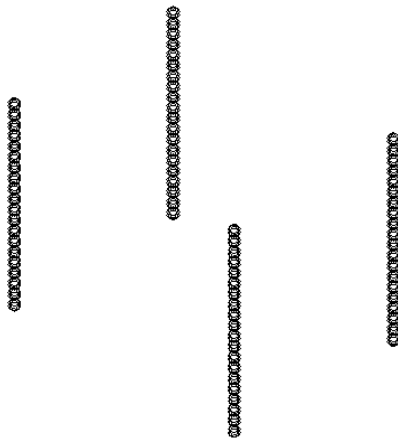

**Figure 24-35:** The four legs of a table, created by using a 3D rectangular array.
5. Save your drawing. It should look like Figure 24-35.